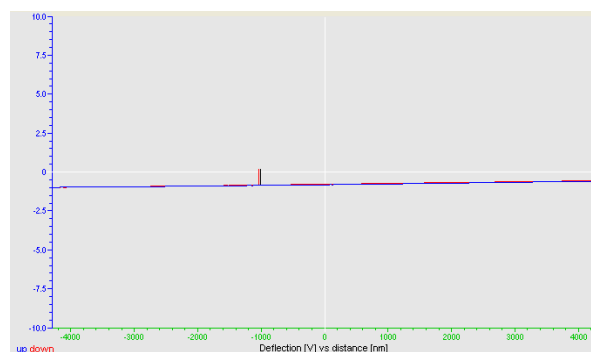

Fig. 6.4 F-d curve showing the absence of cantilever deflection
- The f-d curve in Fig. 6.4 below indicates that the tip does not deflect even when the z-piezo is extended all the way up to the end of its user defined full range.